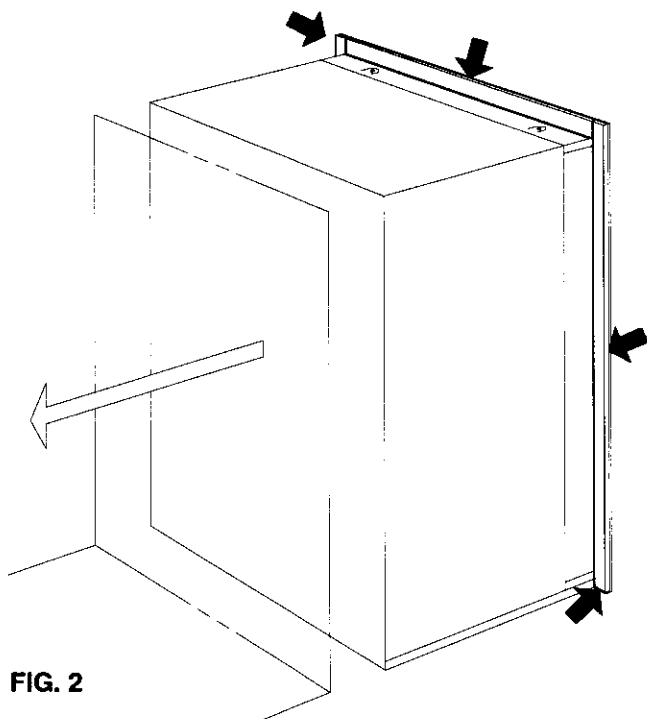

FIG. 2
**Make sure that there is a complete seal between the front frame of the refrigerator and top, sides and bottom of the enclosure.** A length of sealing strip is applied to the rear surface of the front frame for this purpose, see fig.2.